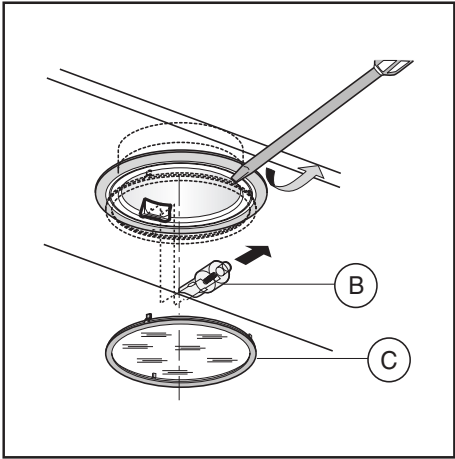

Fig.13
- **Replacing halogen light bulbs (Fig. 13).**